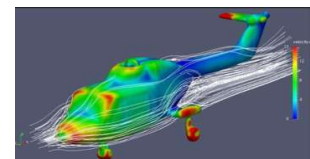

Fig. 4: Example of CFD helicopter simulation
- Finite Element Analysis (Fig. 4)